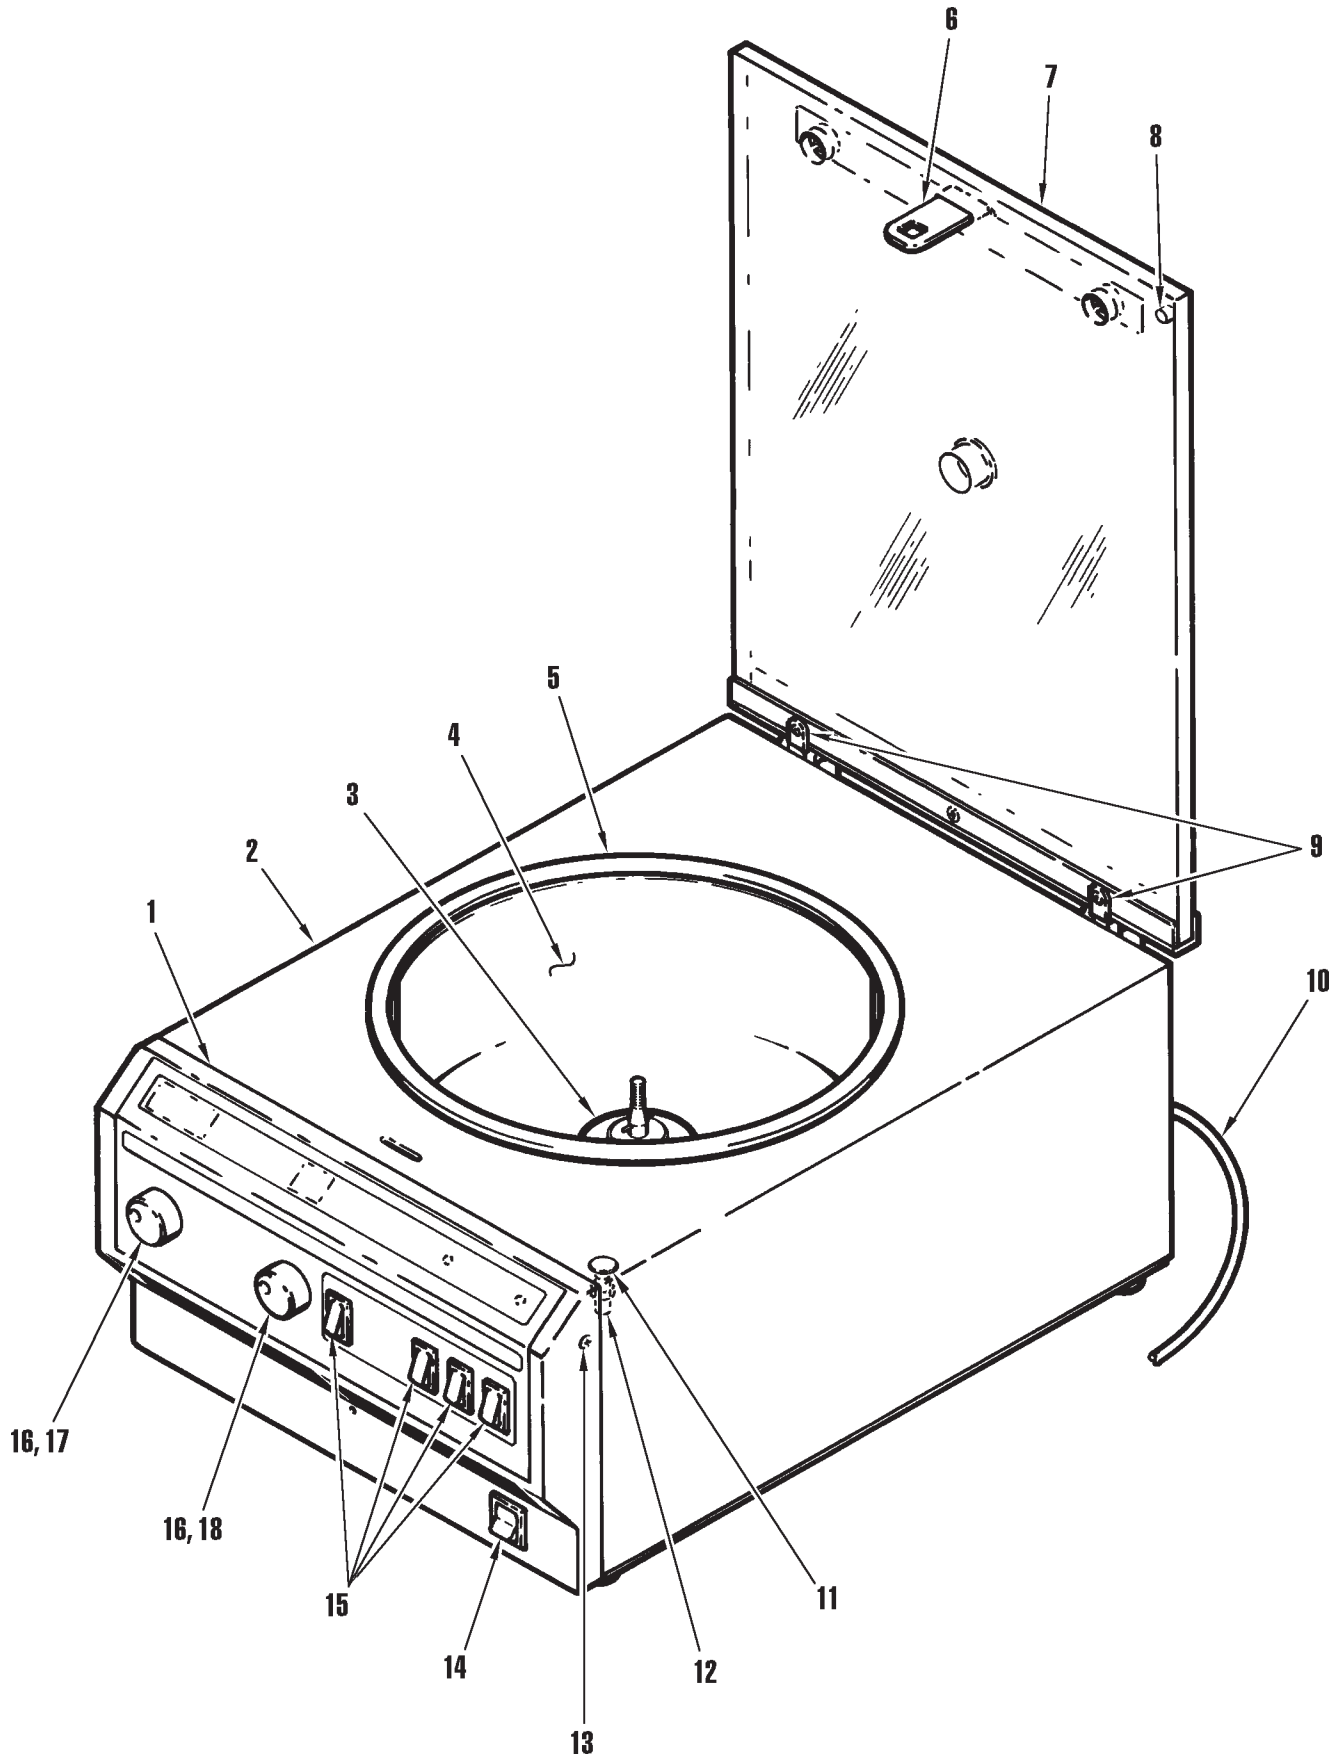

Figure 8-1. TC6® Main Assembly
(keyed to figure 8-1)**
* A dash (-) indicates items not referenced in figure 8-1.